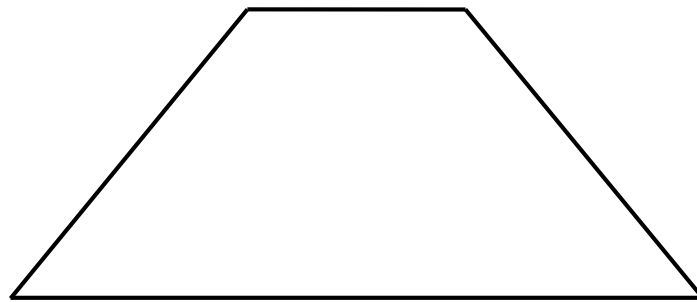

Fig. 2.1
- 2.1 Figure 2.1 shows a frame structure which is non-rigid. Copy figure 2.1 into your examination book and change it to show how it could become rigid. (3)